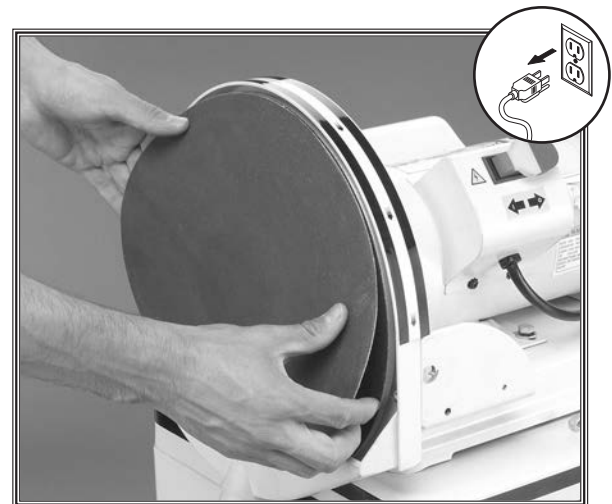

Figure 21. Sanding disc installation.
4. Place the new 12" sandpaper on the sanding disc as shown in Figure 21.